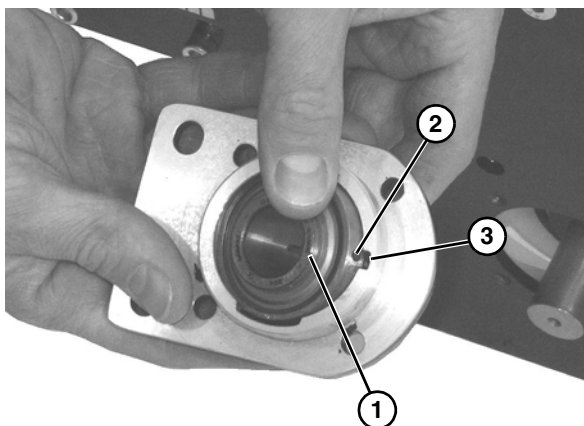

Figure 55
2. Insert bearing (**Figure 55, item 1**) into housing slot: Locate anti-rotation nub (**Figure 55, item 2**) to align with slot (**Figure 55, item 3**), and twist bearing into housing.